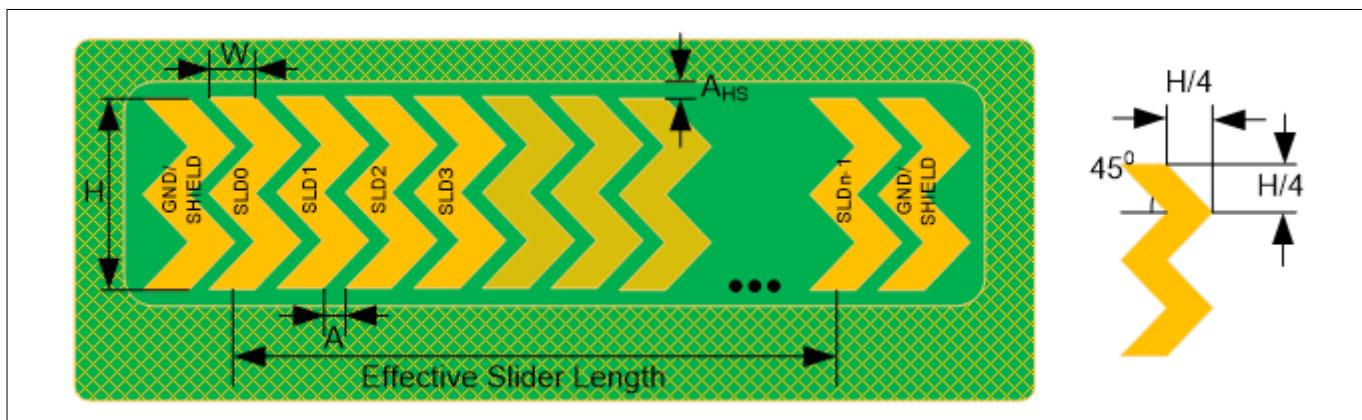
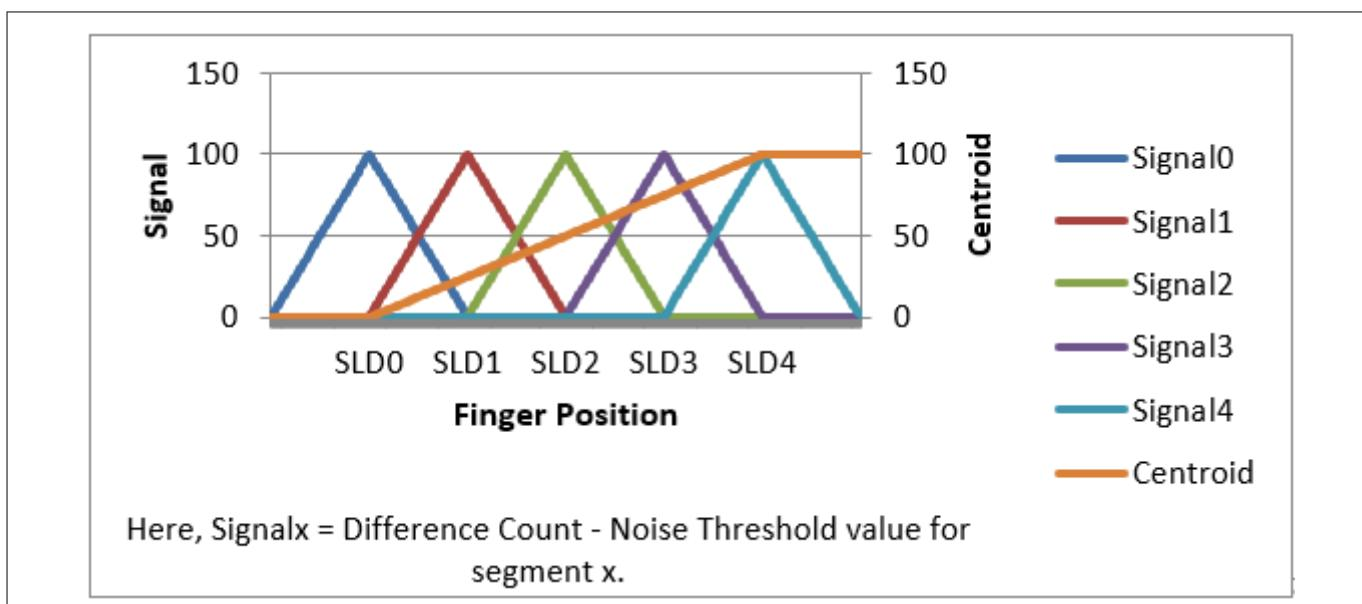
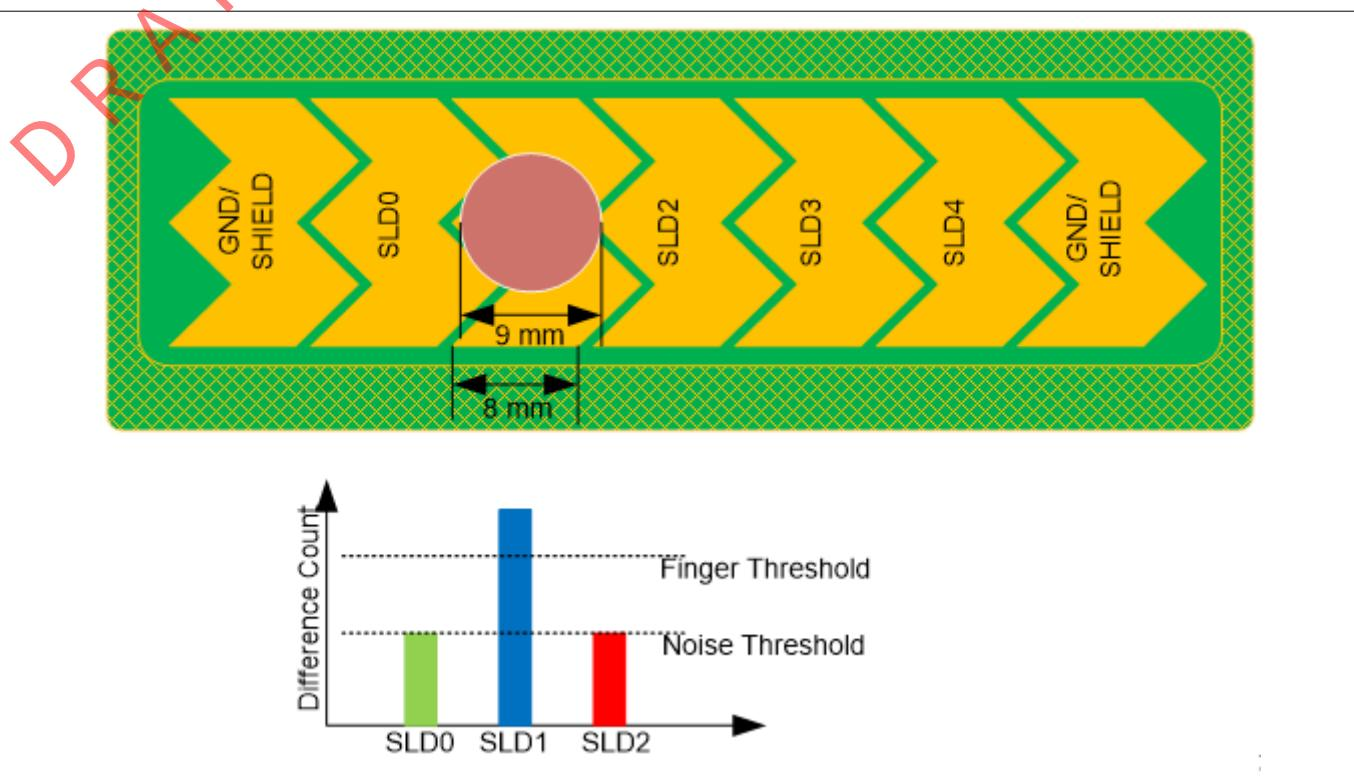

Figure 317 Typical linear slider pattern
Figure 318 Ideal slider segment signals and centroid response
Figure 319 Ideal slider signals
Figure 317 shows the recommended slider pattern for a linear slider and Table 65 shows the recommended values for each of the linear slider dimensions. A detailed explanation on the recommended layout guidelines is provided in the following sections.
A linear response of the reported finger position (that is, the centroid position) versus the actual finger position on a slider requires that the slider design is such that whenever a finger is placed anywhere between the middle of the segment SLD0 and middle of segment SLDn-1, other than the exact middle of slider segments, exactly two sensors report a valid signal ²⁴⁾. If a finger is placed at the exact middle of any slider segment, the adjacent sensors should report a difference count = noise threshold. Therefore, it is recommended that you use a double-chevron shape as Figure 317 shows. This shape helps in achieving a centroid response close to the ideal response, as Figure 318 and Figure 319 show. For the same reason, the slider-segment width and air gap (dimensions "W" and "A" respectively, as marked in Figure 317) should follow the relationship mentioned in Equation 39.
Note that if the value of *slider-segment-width* + 2 * *air-gap* is higher than the *finger diameter*, it may be possible to increase and adjust the sensitivity of all slider segments such that even if the finger is placed in the middle of a slider segment, adjacent sensors report a difference count value equal to the noise threshold value (see Figure 318); however, this will result in the hover effect – the slider may report a centroid position even if the finger is hovering above the slider and not touching the slider.
In a CAPSENSE™ design, when one segment is scanned, adjacent segments are connected to either ground or to the driven-shield signal based on the option specified in the “Inactive sensor connection” parameter in the CAPSENSE™ CSD Component. For a linear centroid response, the slider requires all the segments to have the same sensitivity, that is, the increase in the raw count (signal) when a finger is placed on the slider segment should be the same for all segments. To maintain a uniform signal level from all slider segments, it is recommended that you physically connect the two segments at both ends of a slider to either ground or driven shield signal. The connection to ground or to the driven-shield signal depends on the value specified in the “Inactive sensor connection” parameter. Therefore, if your application requires an ‘n’ segment slider, it is recommended that you create n+2 physical segments, as Figure 317 shows.
1. Decide the required length of the slider (L) based on application requirements. This is same as the “effective slider length” as Figure 317 shows.
Note: *The PCB length is higher than the required slider length as Figure 317 shows. PCB length can be related to the slider length as shown in Equation 77.*